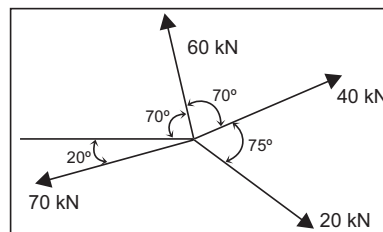

Fig. 2
2.16 System of forces is shown in above fig. 2 which is in equilibrium. Find the magnitude and direction of force that make the system in equilibrium condition with neat sketch.